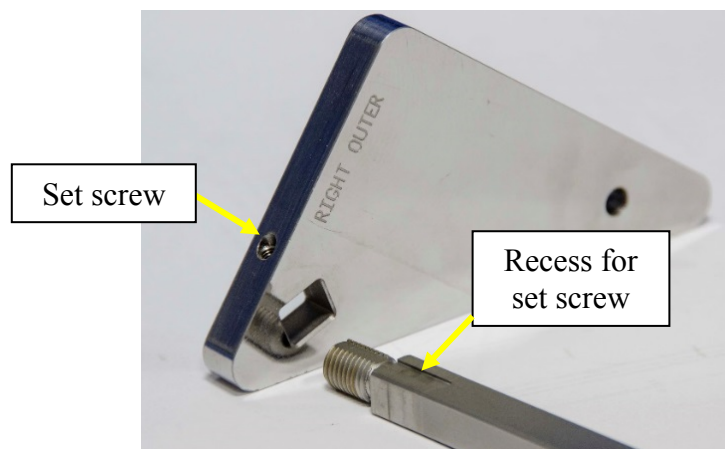
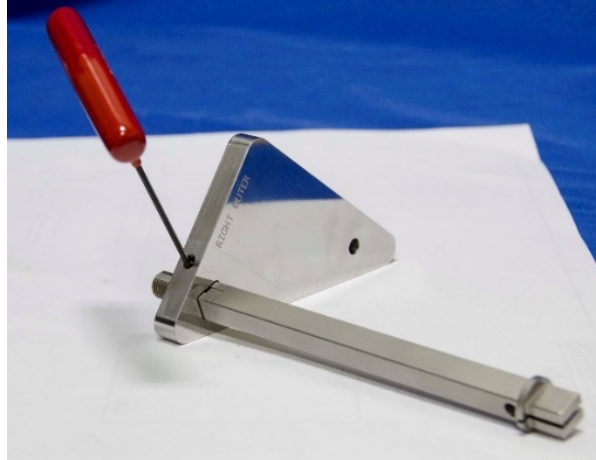

Figure 2-13. Install H-point tool expander into H-point tool plate
Figure 2-14. Tighten set screw into tool expander
2.4.2.2 To assemble, insert the H-Point Tool Expander (472-8511-A) into the square hole in the H-Point Tool Plate (472-8512-A) on the opposite side of the plate than the intended measure. Align the set screw recess on the expander with the set screw in the plate (Figure 2-13). Tighten the SSNP M4 x 0.7 x 6 set screw through the edge of the plate into the expander tool (Figure 2-14).